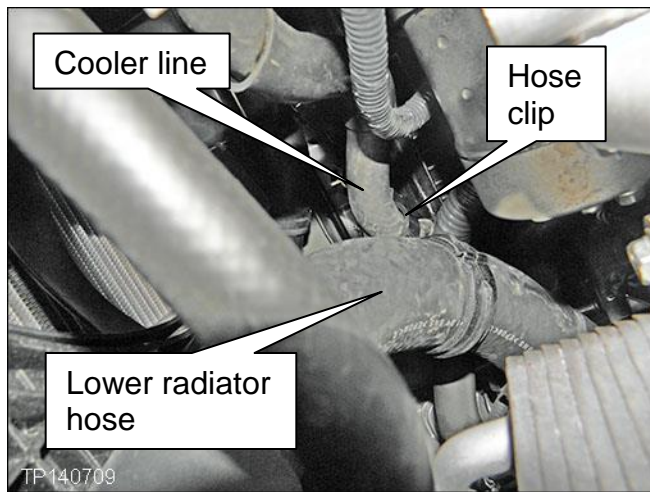

Figure 4
7. Disconnect the transmission cooler line from the hose clip shown in Figure 4.
- b. Locate the cooler line and hose clip shown in Figure 4.